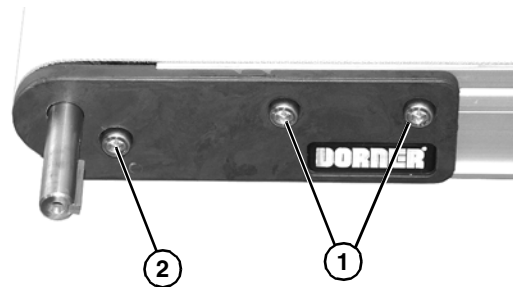

Figure 3
2. Remove two M6x25 socket head screws (Figure 3, item 1).
3. Install M6x8 socket head screw (Figure 3, item 2) and washer.